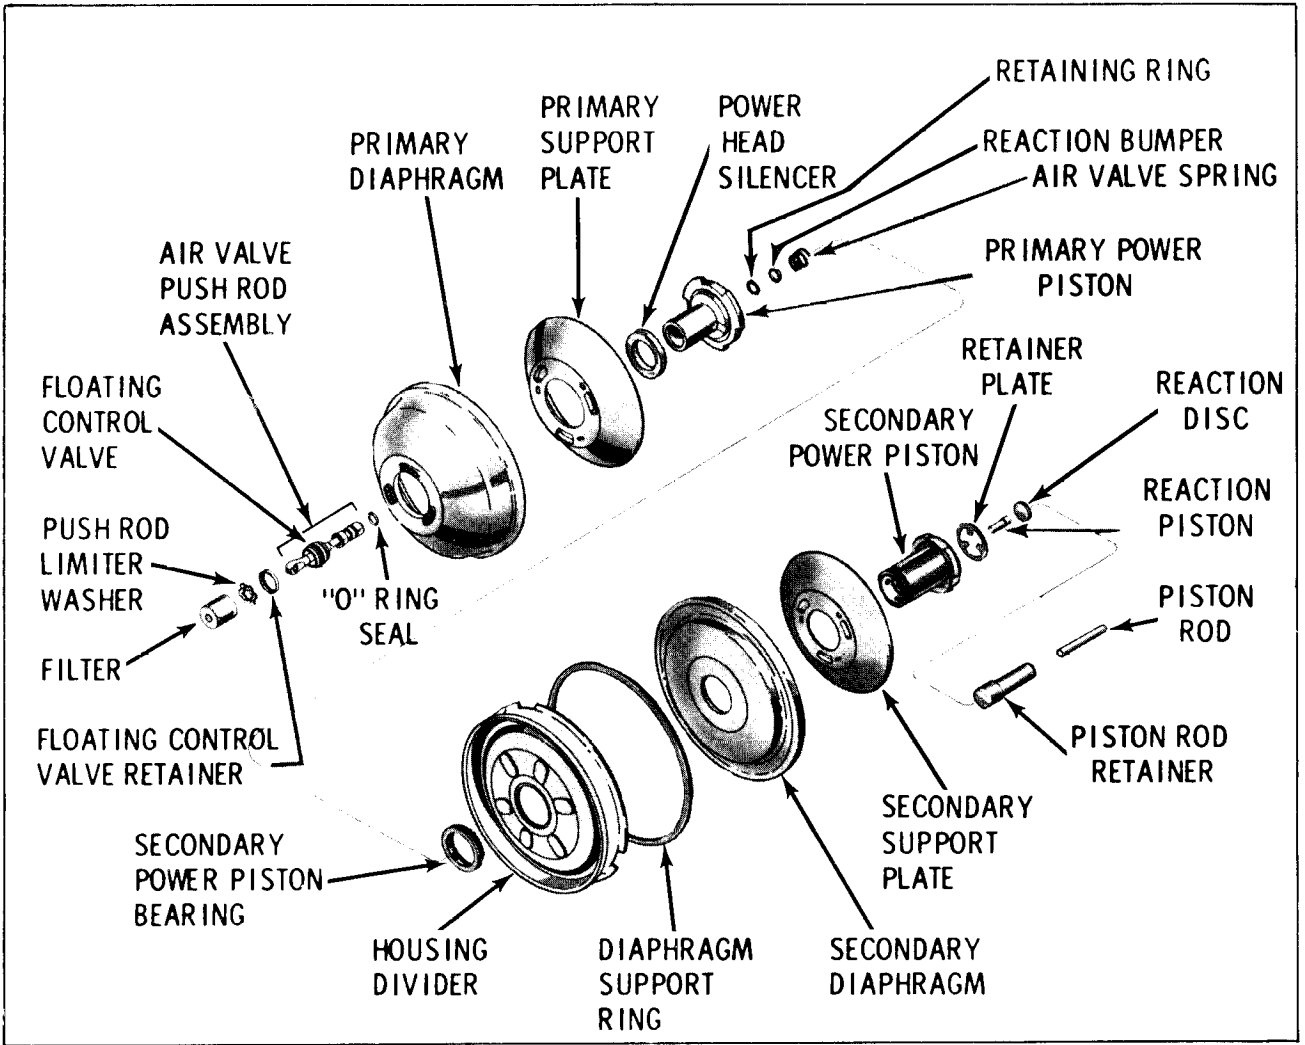

Figure 37—Exploded View of Power Piston
10. Lift the bead on the outside diameter of the secondary diaphragm and remove the diaphragm support ring. (figure 37)
1. Lubricate the "O" ring seal, Figure 37 and place on the air valve.